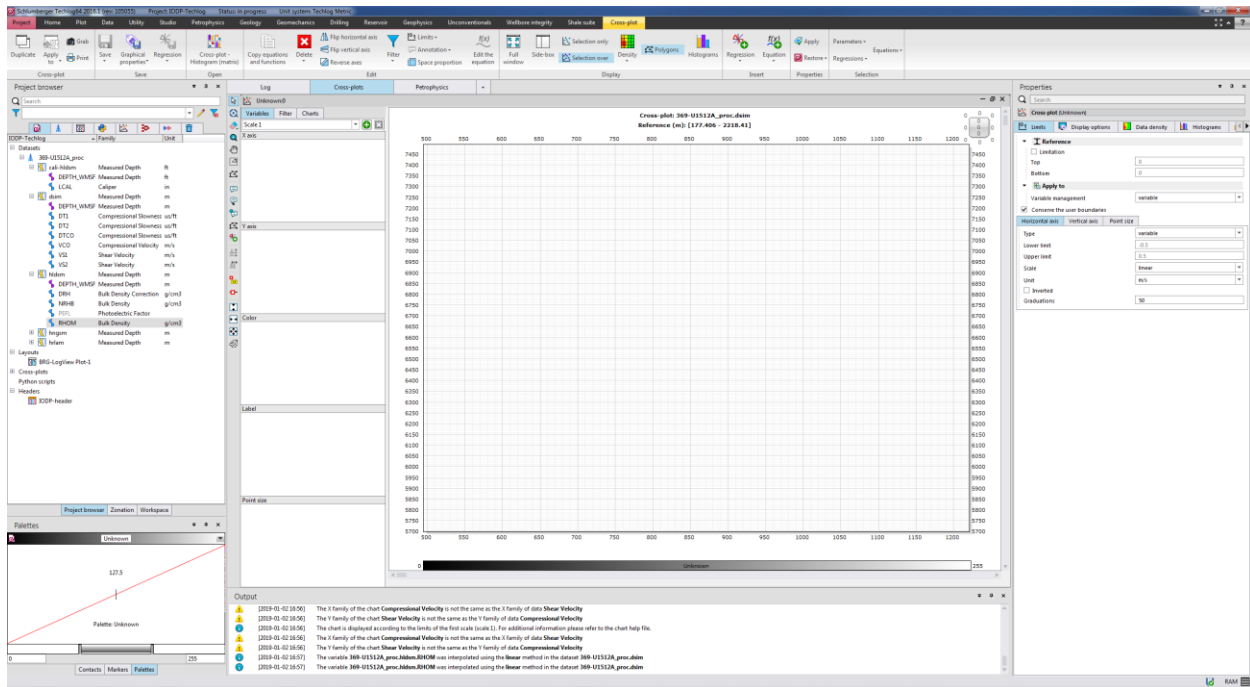

Figure 19: A new Cross-plot window in the Display area.
2. A new Cross-plot window will appear in the Display area (Fig. 19)
3. Select a variable from the Datasets and click-and-drag to a corresponding zone in the Variables tab: X axis, Y axis, Color, Label and Point size (Fig. 19)